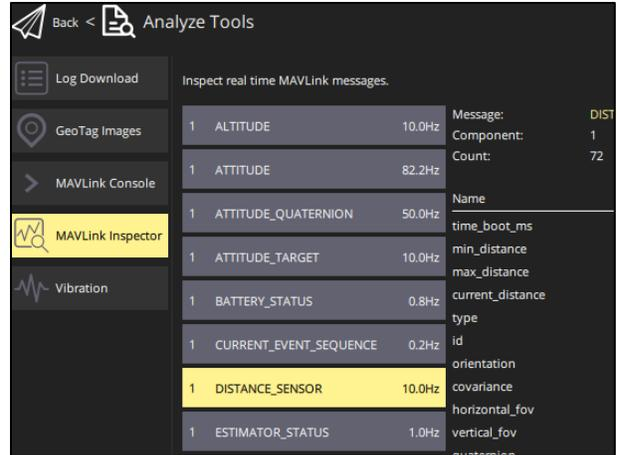

Figure 135 MAVLink DISTANCE_SENSOR message
2. Select the **MAVLink Inspector** tab, and wait for a **DISTANCE_SENSOR** message to appear as shown in **Figure 135**. If one does not appear after several seconds, it indicates that there is a problem communicating with the LiDAR module. If this happens, verify the connections between the LiDAR, flight controller, and the wires themselves.